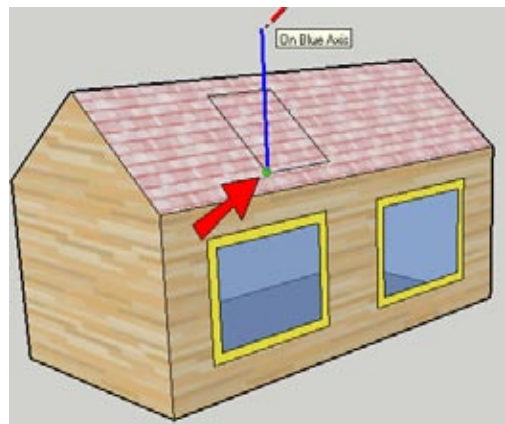

Figure 5-15
2. Draw a rectangle in the roof. For the side of the dormer, start a line at the lower corner (where indicated in Figure 5-15). Move your cursor (don't click yet) straight up or down, in the blue direction. Press and hold Shift to lock this direction. The blue preview line turns bold to indicate that its direction is locked.